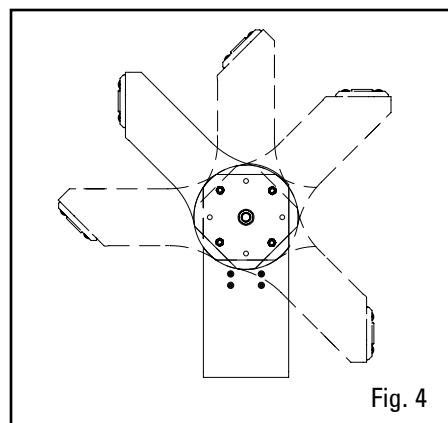

Fig. 4
2. Position the guide arm in one of five positions (fig. 4).